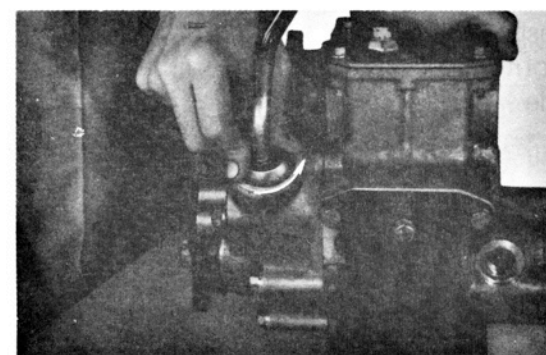

Fig. 3-6.
8) Remove the transfer gear control lever assembly from the transfer gear front case in the following manner: Turn the gear control lever guide to the left while pushing it down as shown in the Fig. 3-6.
9) Take out the eight (8) 8mm nuts attaching the transfer gear front case and lightly tap the case with a wooden hammer. The transfer gear output front shaft comp. comes out with the transfer gear front case. Drive out the transfer gear output shaft from the outside, using a wooden hammer.